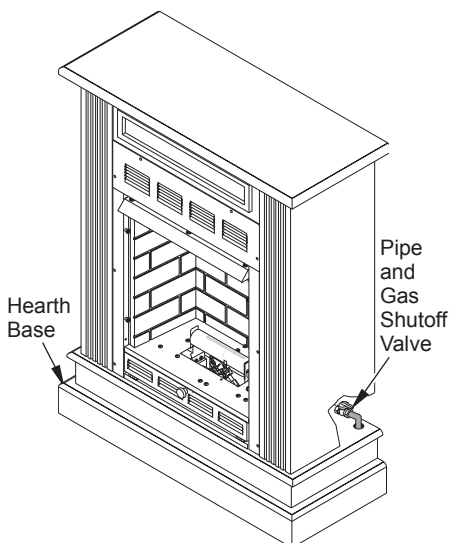

Figure 6 - Locating Gas Shutoff Valve
- Place hearth base against wall at installation location. Cut an access hole in hearth base to run gas line to fireplace (see Figure 6). Make sure to locate access hole to inside of mantel.